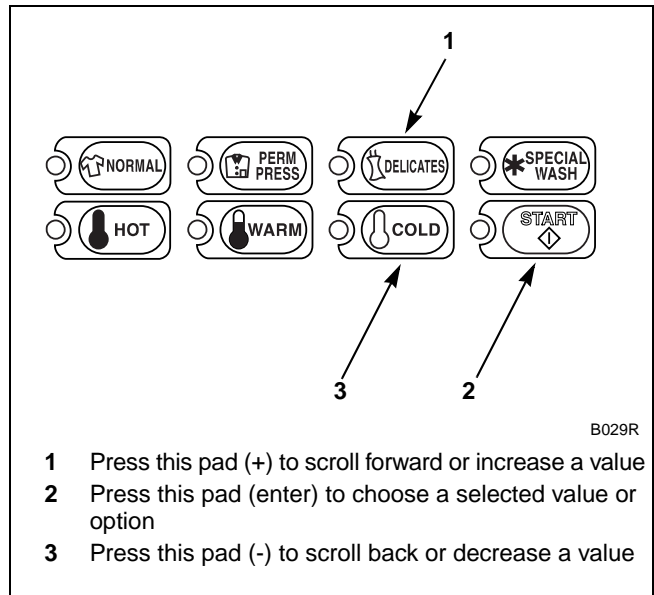

Figure 116
5. Press the DELICATES (+) or the COLD (-) keypad to increase or decrease the current number to the desired number selected from *Table 10*. Refer to *Figure 116*.